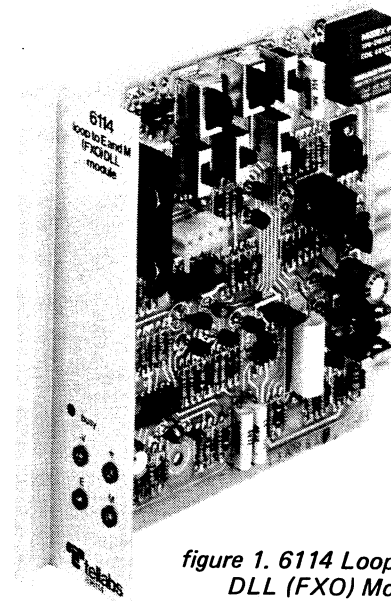

figure 1. 6114 Loop-to-E&M DLL (FXO) Module
1.01 The Tellabs 6114 Loop-to-E&M Dial Long Line (Foreign Exchange, Office End) Module (figure 1) provides conversion between E&M signaling and the loop signaling used at the office (switching-equipment) end of a foreign-exchange (FX) circuit or the PBX end of an off-premises-station (OPS) circuit. Specifically, the 6114 converts E-lead signals to loop signaling for operation of the switching equipment and converts loop supervisory and ringing signals from the switching equipment to M-lead outputs. The 6114 is typically used in a 2wire circuit with an associated term set or repeat coil. The resulting two-module arrangement provides facility signaling, loop signaling, and conversion between the two signaling modes at the office end (or PBX end) of an FX or OPS circuit.